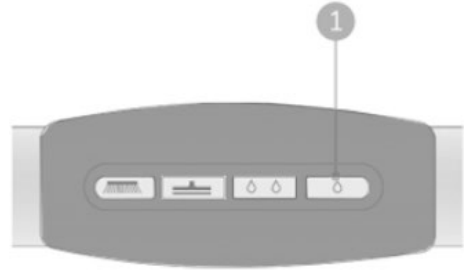

Fig. 11
1. Turn on the ECO mode by pushing the ECO button (Fig. 11, pos 1).
3. To start normal cleaning mode push button (Figure 11, pos2)